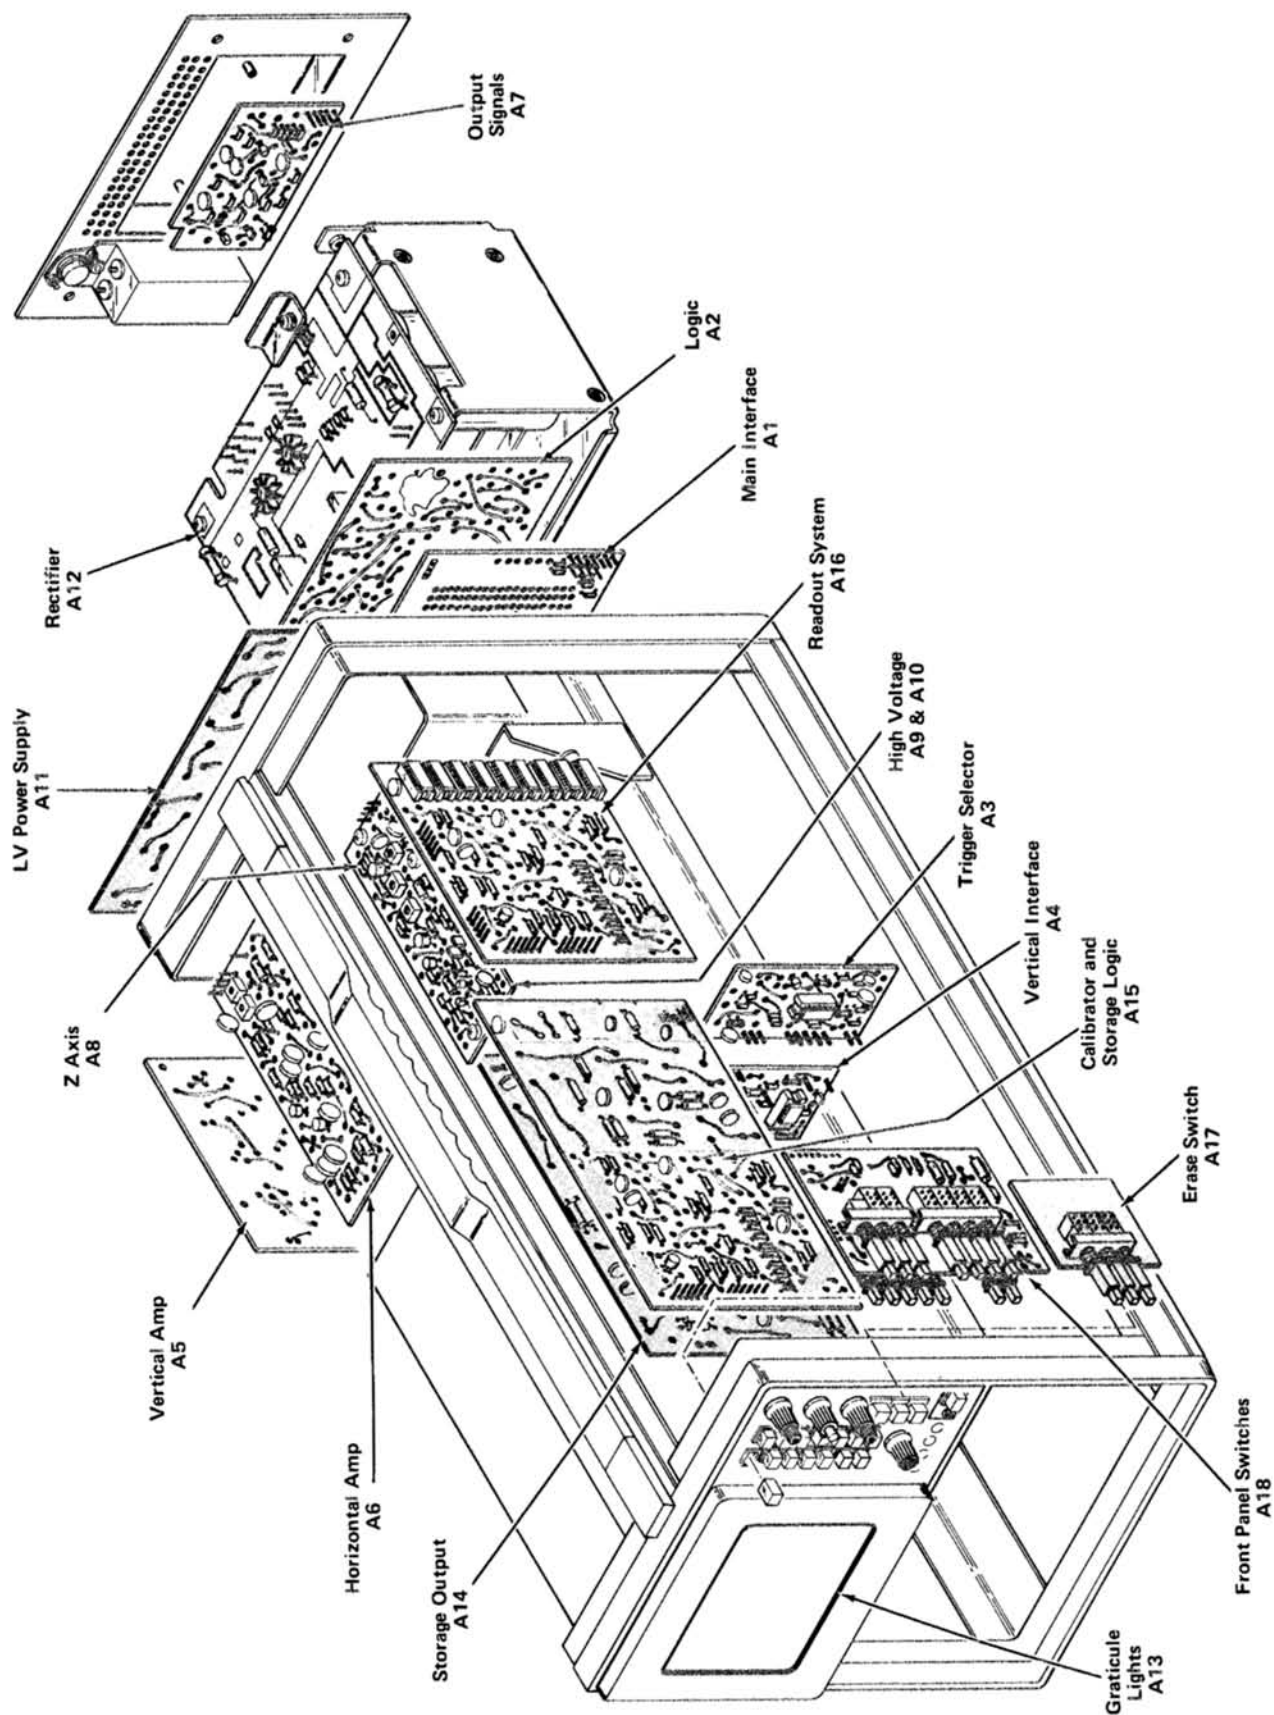
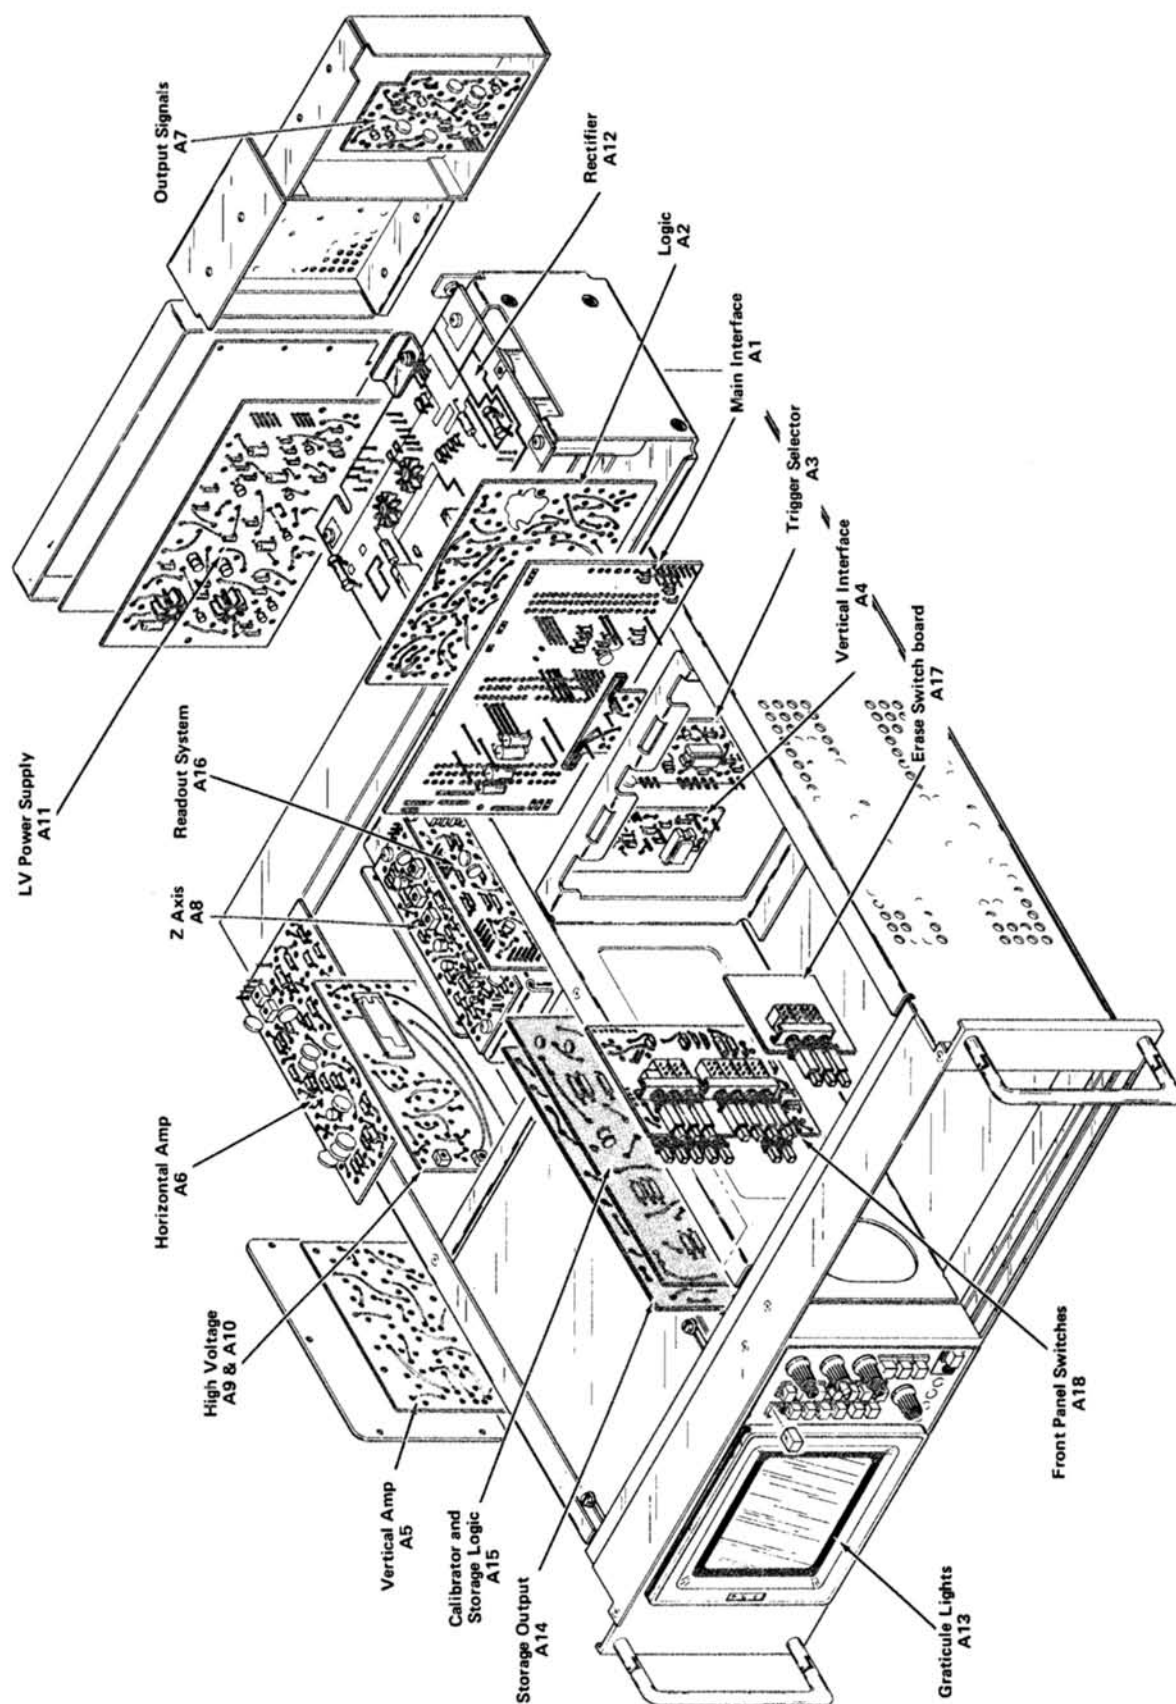

Fig. 4-2. Location of circuit boards in the 7623.
Fig. 4-3. Location of circuit boards in the R7623.
**Circuit Boards.** Fig. 4-2 shows the location of the circuit boards within the 7623; Fig. 4-3 shows the location of circuit boards in the R7623. Pictures of these circuit boards are shown in Figs. 6-1 through 6-11. These pictures are located in the Diagrams section on the back of the page opposite the circuit diagram, to aid the cross-referencing between the diagrams and the circuit-board components. Each electrical component on the boards is identified by its circuit number. The color and location of the interconnecting connectors are also shown. The circuit boards are also outlined on the diagrams with a blue line to show which portions of the circuit are located on a circuit board.
**Resistor Color-Code.** In addition to the brown composition resistors, some metal-film resistors and some wire-wound resistors are used in the 7623. The resistance values of wire-wound resistors are usually printed on the body of the component. The resistance values of composition resistors and metal-film resistors are color-coded on the components with EIA color-code (some metal-film resistors may have the value printed on the body). The color-code is read starting with the stripe nearest the end of the resistor. Composition resistors have four stripes which consist of two significant figures, a multiplier, and a tolerance value (see Fig. 4-2). Metal-film resistors have five stripes consisting of three significant figures, a multiplier, and a tolerance value.